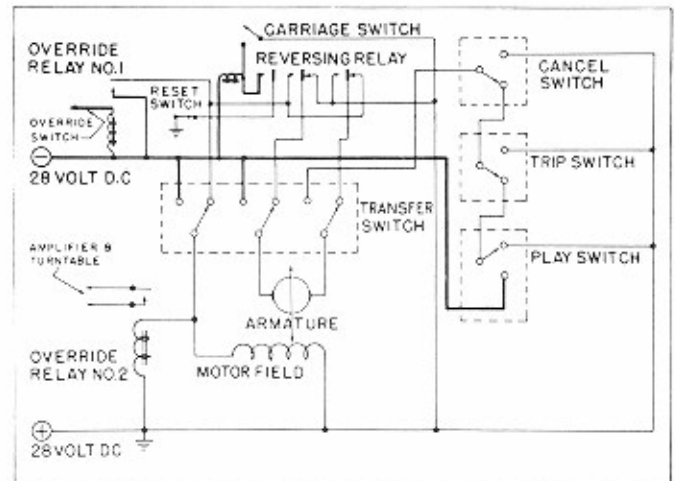

Fig. 46 PHASE I - PHONOGRAPH AT REST
(Figs. 46 thru 53).
a. Phase 1 -- Phonograph at Rest. (Fig. 46)
The electrical condition of the record changer during the stand-by or (at rest) phase is shown in Figure 46. Negative D.C. voltage is present at one side of the coil of over-ride relay No. 1, the open contacts of over-ride relay No. 1, one side of the reversing relay coil, two open contacts of the transfer switch, and one open contact of the play switch. Positive D.C. voltage appears at one side of over-ride relay No. 2, the motor field, the closed play, trip and cancel switches, and the open transfer switch contacts. No action therefore will take place until the No. 1 over-ride relay is energized.